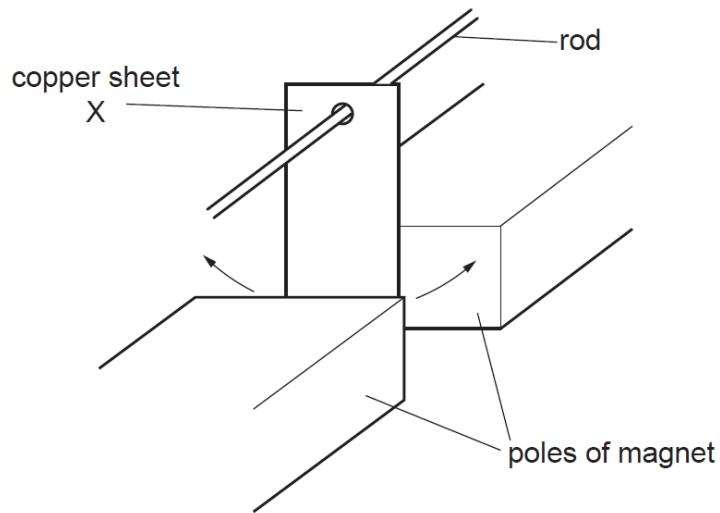

Fig. 9.3
- (c) A thin copper sheet X is supported on a rigid rod so that it hangs between the poles of a magnet as shown in Fig. 9.3.